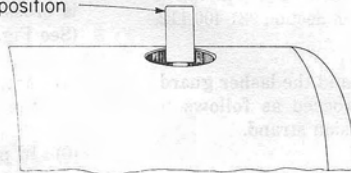

Fig. 4—Position of Lever When Roller is Open
- (4) Open the strand tensioning roller. When the strand drive wheels at the top of the lasher) is crosswise, the roller is in the open position. (See Fig. 4.)
- (5) Attach a handline to the handle and raise the lasher to the strand.
- (6) In placing the lasher on the strand, be sure that the strand drive wheels and small rear trailer wheel are properly positioned on the strand.
(1) Turn the strand tensioning roller (Fig. 4) to the open position and check lashing wire coils.